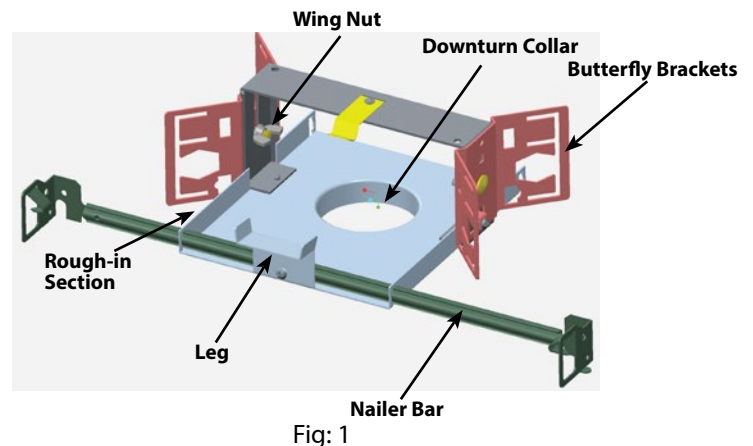

Fig: 1
3. The fixture can be adjusted from 1/2" to 1" max ceiling thickness. For height adjustment, loosen the **Wing Nut** and slide the **Butterfly Bracket**. If necessary remove the **Wing Nut** and insert in screw in different hole provided on the **Butterfly Bracket**. (Fig: 1)